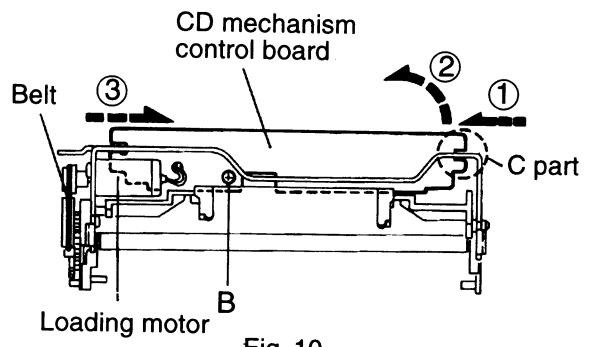

Fig. 10
4. Remove the one screw **B** retaining the CD mechanism control P.C.board (See Fig. 10).
5. After disengaging the engagement between the notch section **C** and frame, remove the CD mechanism Control P.C. board successively from **①** through to **③** in the arrow direction as shown in Fig. 10.